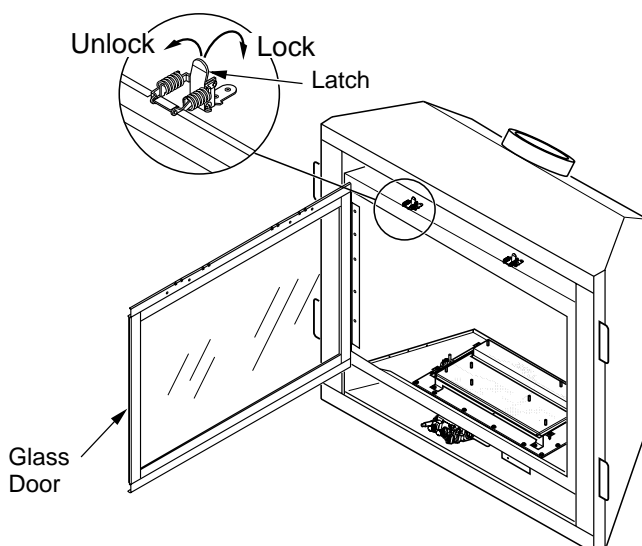

Figure 2 - Opening Glass Door
2. Lift up on latches of door to unlock. There are two on top of firebox and two below firebox that hold glass door in place (see Figure 2).